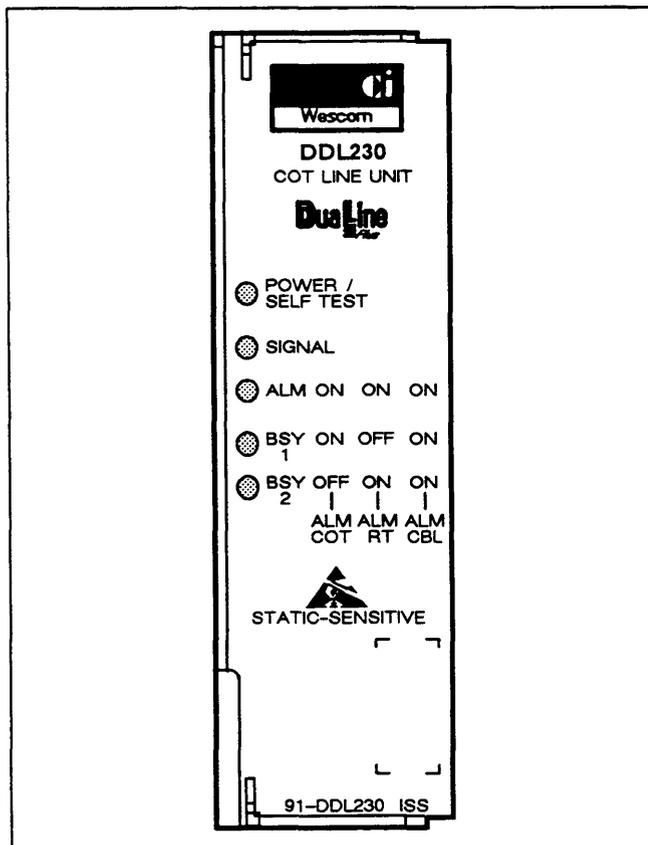

Figure 12. COT DDL230 Line Unit
4.07 The Wescom DDL230 COT Line Unit contains circuitry to interface two POTS CO lines to the Digital Subscriber Loop. The Line Unit provides power to the Remote Terminal over the Digital Subscriber Loop. The Line Unit automatically reduces line powering voltages during idle intervals and increases line powering voltages during busy and ringing conditions. The Line Unit provides Signature Impedances for system testing (see Figures 12 and 13). The Line Unit also provides front panel LEDs for the following functions: